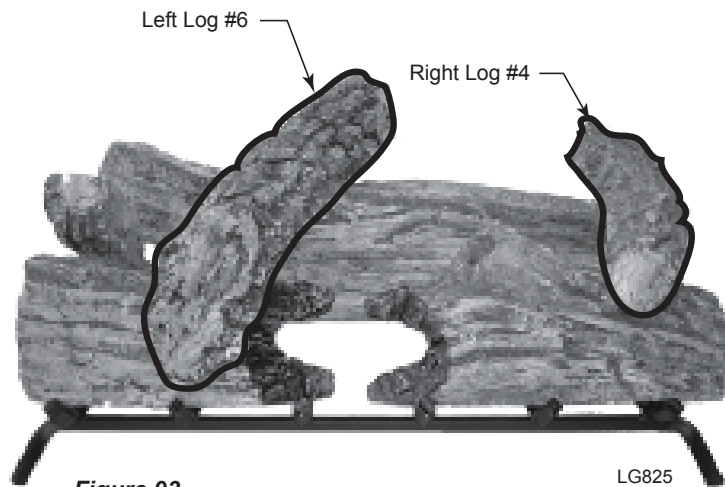

**Figure 91 -
4. Place front end of side support log #2 on top left of log #1a. Rest other end of log #2 on rear grate bar. *Figure 91*